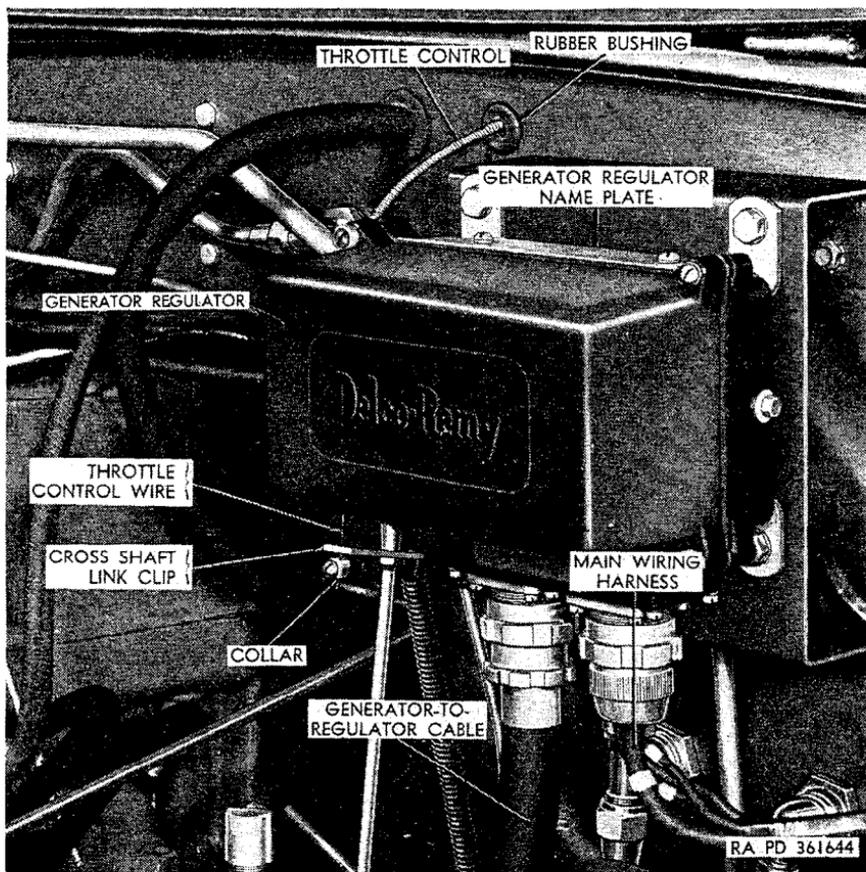

Figure 160. Front view of top right section of cab cowl.
(b) Loosen screw securing collar (fig. 160) to throttle control wire.
(c) Position collar on throttle control wire (fig. 160) so that clearance of approximately one-eighth inch is maintained between top surface of collar and underside of cross-shaft-link clip when throttle valve plate lever (G, fig. 119) is in the idling position and the throttle control knob (T, fig. 65) is in against the instrument panel as far as it will go.
(a) Loosen screw securing collar (fig. 160) to throttle control wire and remove collar.
(c) Pull free end of throttle (fig. 160) through rubber bushing in cab cowl and into cab.
- (b) Push free end of throttle control (fig. 160) through bushing in cab cowl.
- (c) Position control under throttle-control-supporting-bracket clip (S, fig. 155) push control wire (fig. 160) through hole in forward end of cross-shaft-link clip, and tighten nut and bolt securing clip to supporting bracket.
- (d) Install collar (fig. 160) on control wire, and adjust throttle control ((1) above).